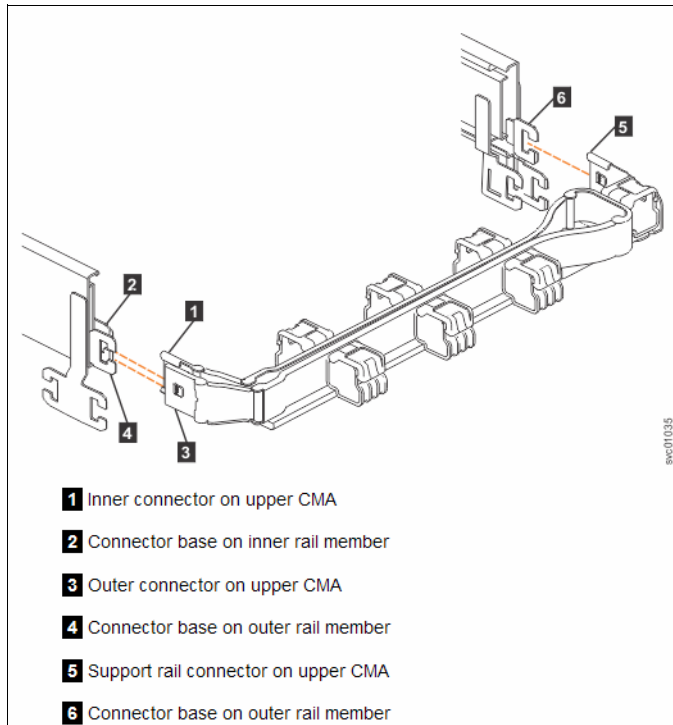

Figure 6-24 Upper CMA assembly connectors
- b. Install the upper CMA assembly. Figure 6-24 shows the connectors on the upper CMA assembly.